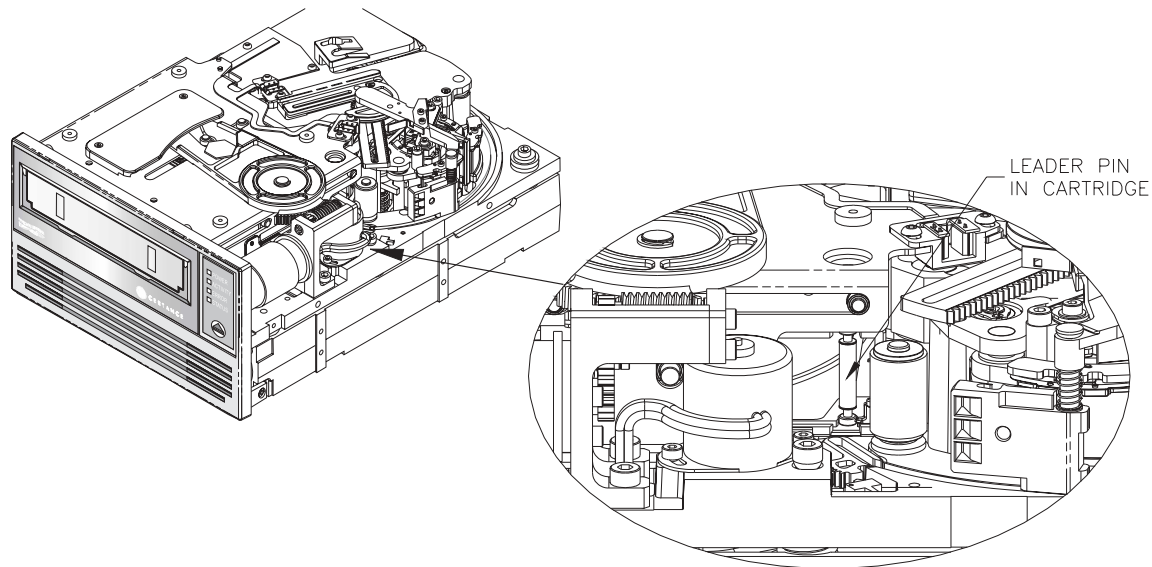

Figure 21. Diagram of LTO-1 and LTO-2 Drives with Leader Pin Inside LTO Cartridge (Tape Not Threaded on Take-up Hub)
- If the cartridge is loaded and the leader pin is still in the cartridge (see Figure 21 on page 77), go to “Cartridge is Loaded and Seated” on page 77.
1. Verify that the leader pin is still inside the cartridge as shown in Figure 21 on page 77. If the leader pin has been pulled out of the cartridge and is still in the tape path, follow the steps in “Cartridge is Loaded and Seated with Tape Threaded” on page 79.